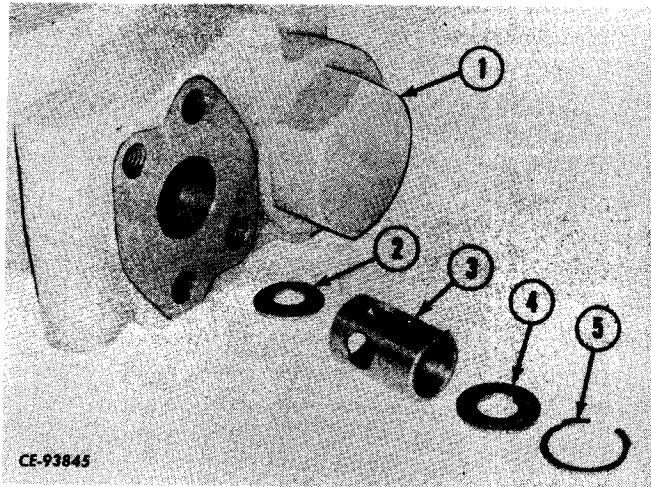

Figure 11-70
Install the orifice (2, Fig. 11-70), sleeve (3) and orifice (4) in the valve (1) and secure with the snap ring (3).